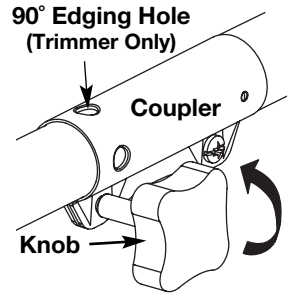
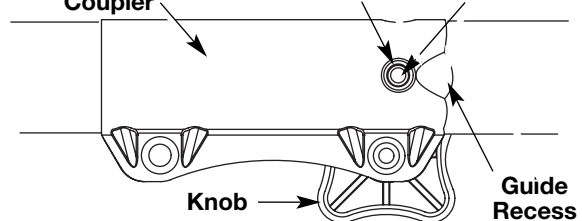
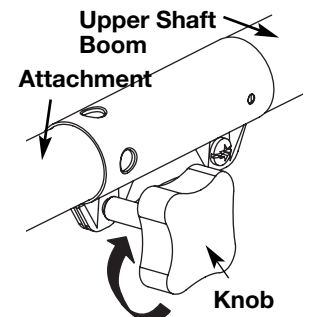

Fig. 11
Fig. 12
Fig. 13
2. Turn the knob counterclockwise to loosen coupler (Fig. 11).
3. Push in the release button (Fig. 12) and twist the shaft 90° until the release button snaps into the 90° hole (Fig. 11).
4. Turn the knob clockwise to lock the coupler (Fig. 13).
2. Turn the knob counterclockwise to loosen the coupler (Fig. 11).
3. While firmly holding the attachment, push it straight into the coupler until the release button (Fig. 12) snaps into the primary hole (Fig. 12). The primary hole is on the opposite side of the coupler from the knob (Fig. 12). Align the release button with the Guide Recess (Fig. 12) to help installation.
**CAUTION:** Before operating this unit, be sure that the release button is fully snapped into the primary hole (Fig. 12), and that the knob (Fig. 13) is securely tightened.
3. Press and hold the release button (Fig. 12).
4. While firmly holding the upper shaft boom (Fig. 13), pull the attachment out of the coupler.
2. Insert the four (4) screws into the holes in the air filter/muffler cover (Fig. 12) and tighten. **Do not over tighten.**